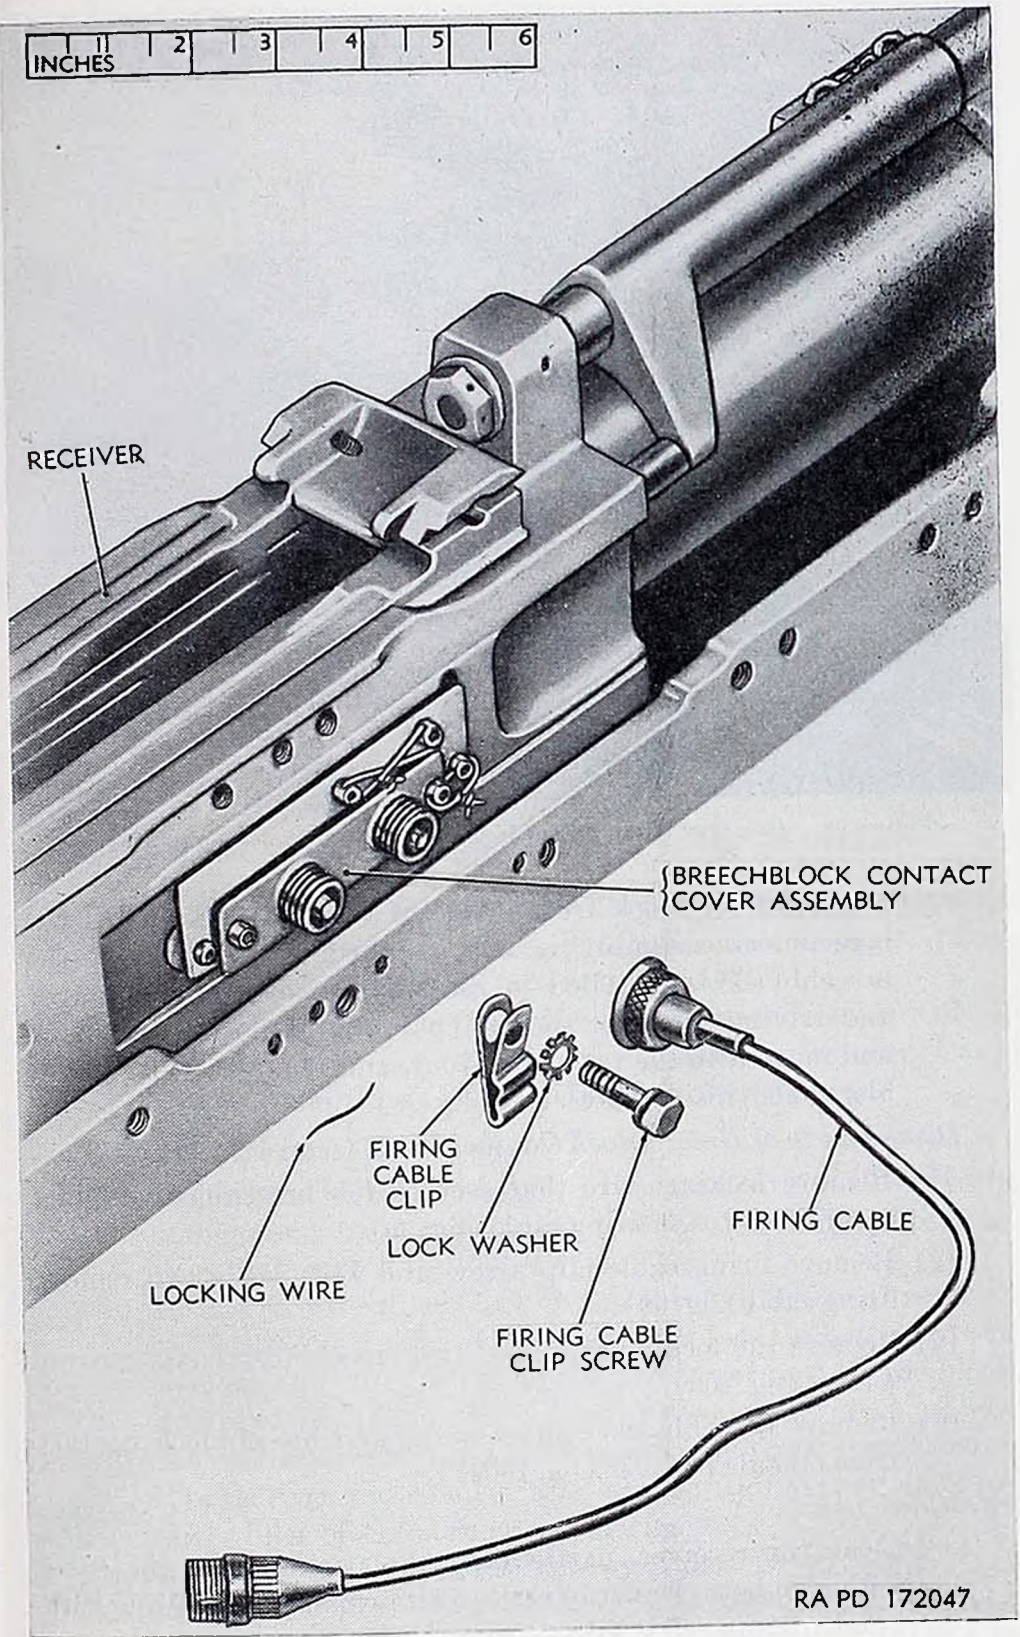

Figure 97. Firing cable and attaching parts.
- (2) Remove cable clip screw and lock washer to disconnect firing cable (fig. 97).
- (6) Adjust cable slack to permit a recoil of $1\frac{1}{8}$ inches and secure firing cable clip to cradle with a cable clip screw and lock washer (fig. 97).